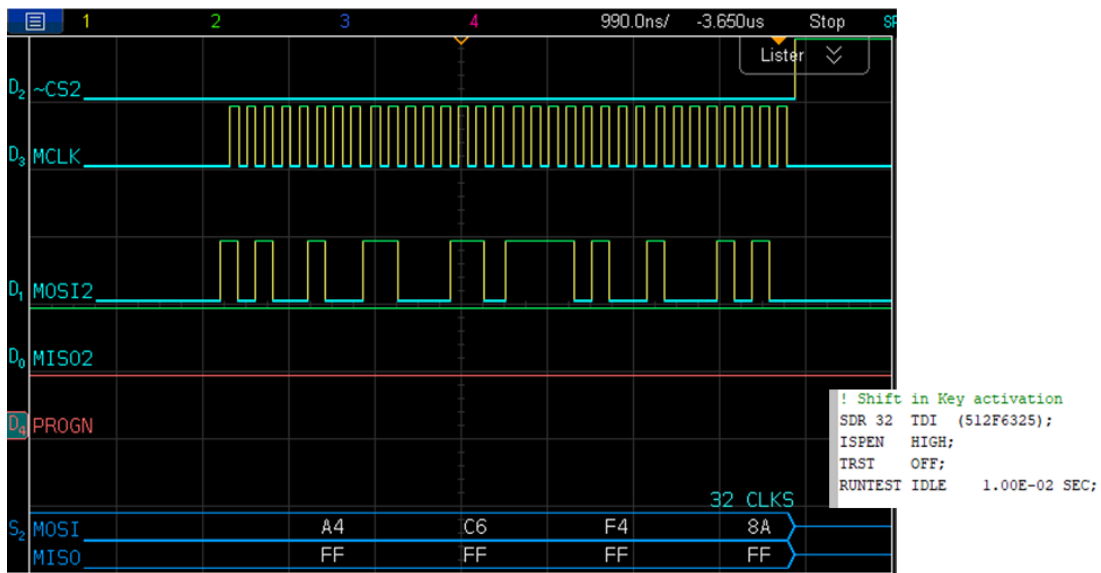
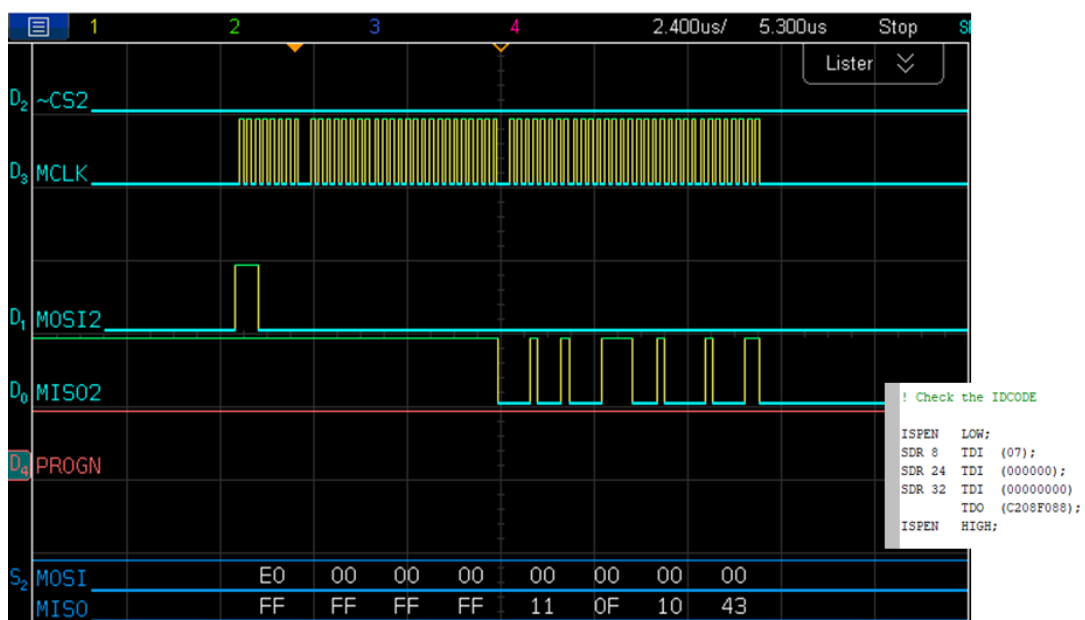

Figure 6.4. Shift in Activation Key
Figure 6.5. READ_ID Command and Device IDCODE Readout
- The sequence provided in the SVF file is what the Radiant Programmer does in the operation the user saves in the .xcf file. Figure 6.4 and Figure 6.5 show the waveforms that correlates with the sequence.